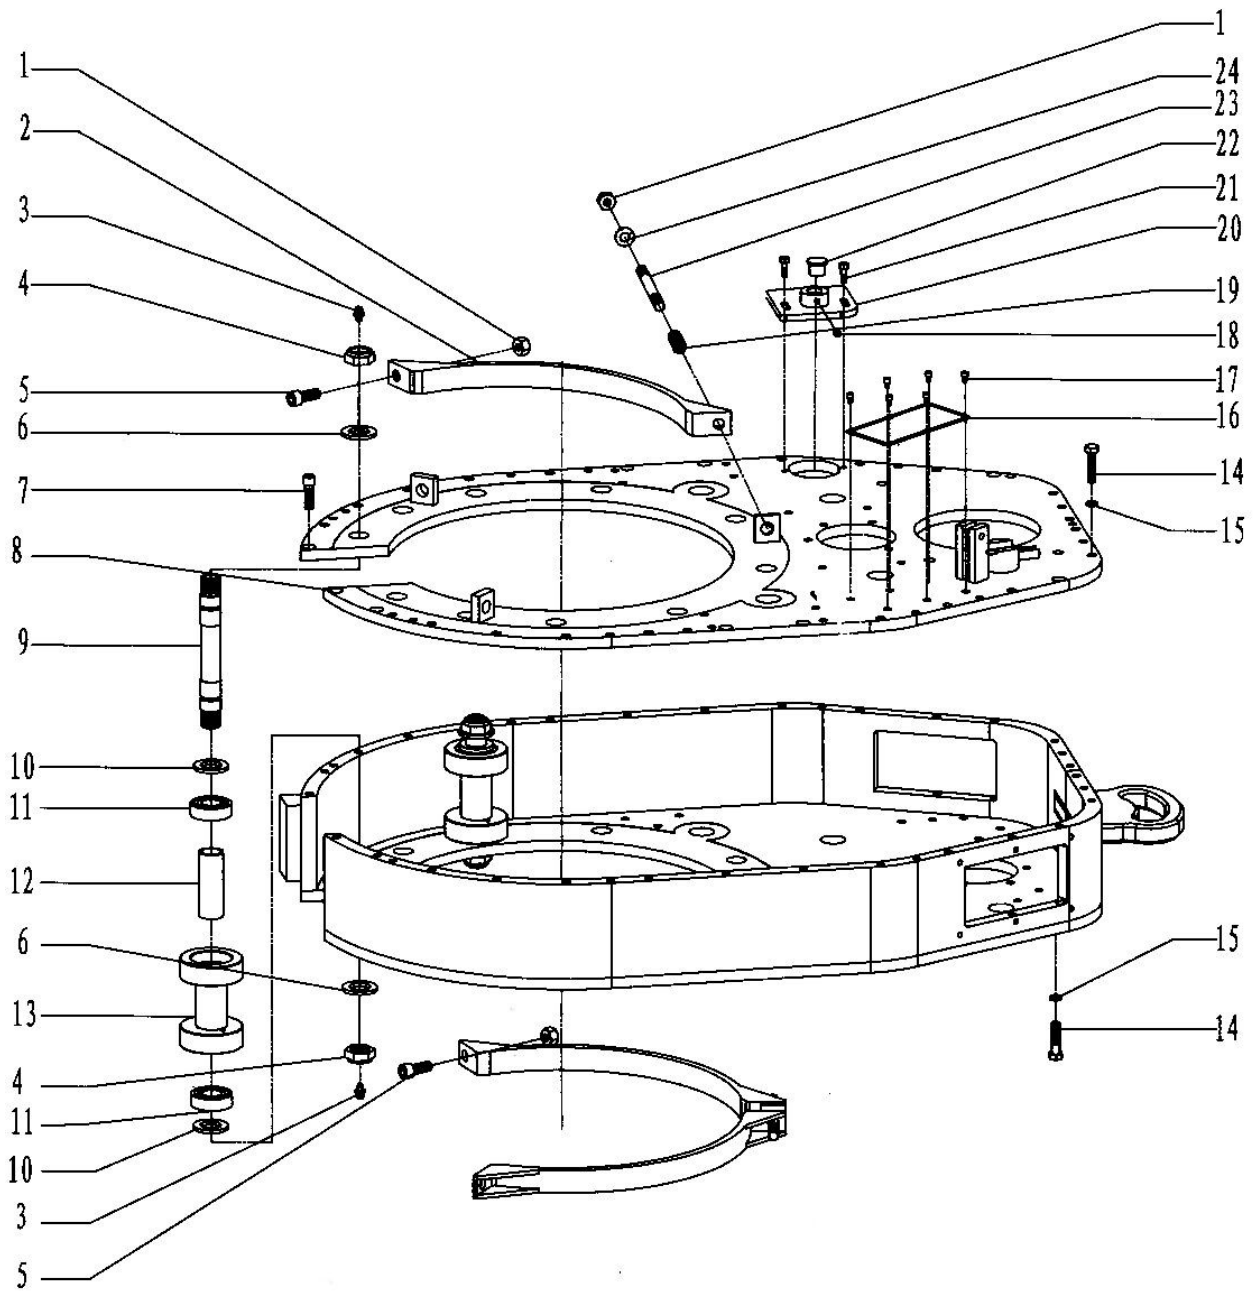

Fig.7
- Shell and accessories I (Fig 7, Table 4)